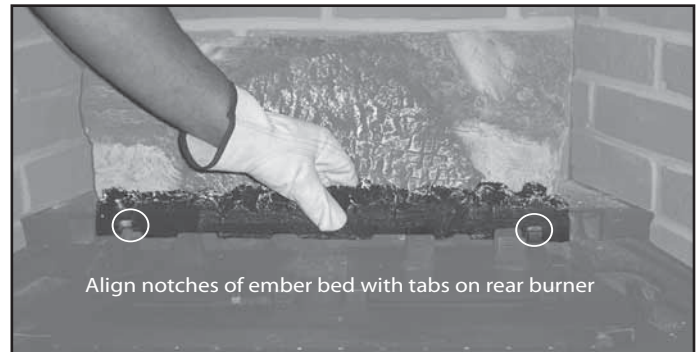

Figure 15.7 Position Ember Bed #4061-171
- Position ember bed over the burner locating the notches of the ember bed inside the tabs of the rear burner. See Figure 15.7. Make sure the ember bed is not covering any gas ports on the burner.